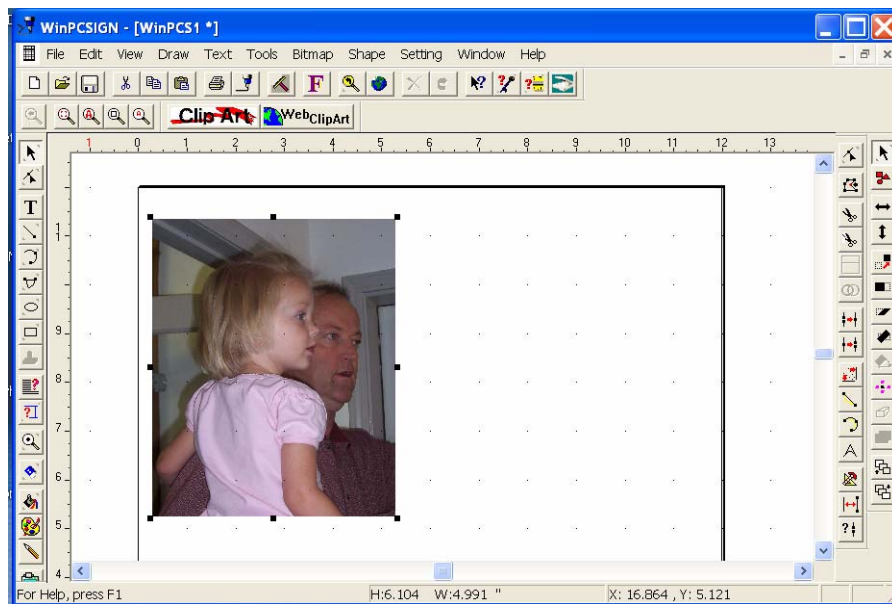

Figure 166
- 1 Scan a photo or graphic into WinPCSIGN or open a graphic that is already saved on your computer. See figure 166.